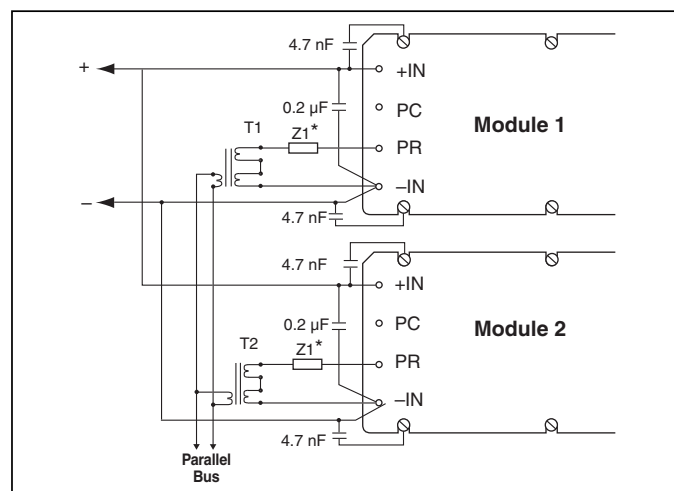

Figure 10 — Transformer-coupled interface.
**Transformer coupled interface.** For paralleling four or more converters a transformer coupled interface is required. See Figure 10.